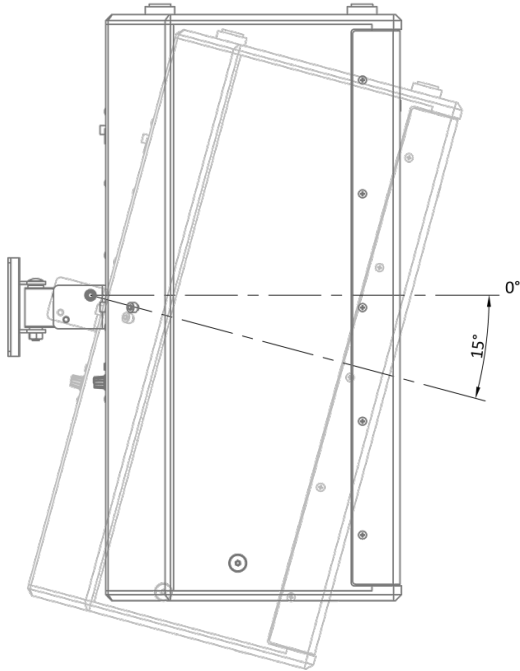

FIG.9
- FIG.8 and FIG.9 show the possible vertical tilting combinations: FIG.8 is for the speaker mounted vertically or FIG.9 for speaker mounted horizontally.